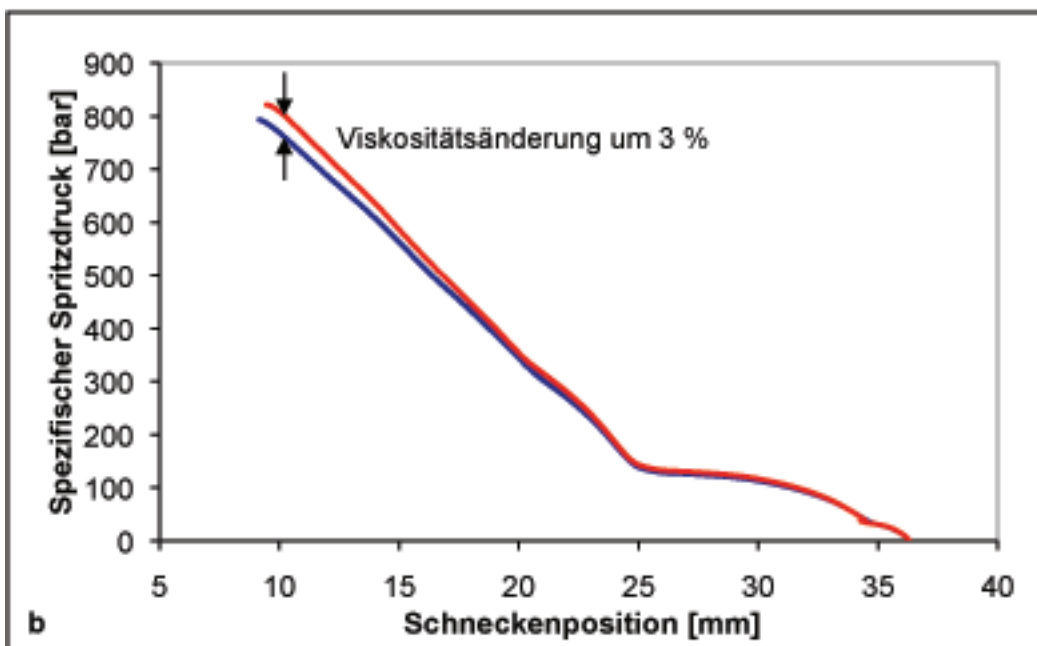

Figure 2B
A second significant reason for the process variations are changes in polymer viscosity that are mostly based on batch or moisture variations. Fundamentally the pressure required to fill the mold is proportional to melt viscosity. If the viscosity increases then the pressure during injection rises more steeply (**Figure 2B**).
- changes in the slope of the pressure rise (**Figure 2B**)